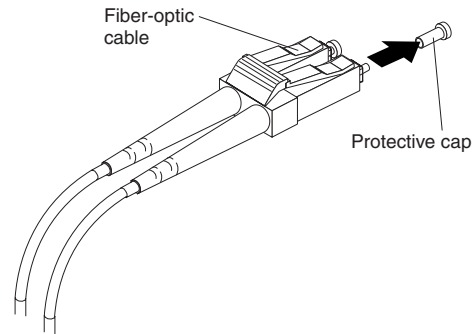

Figure 34. Removing caps from fiber-optic cables
2. Remove the protective caps from the fiber-optic cable end. See Figure 34.